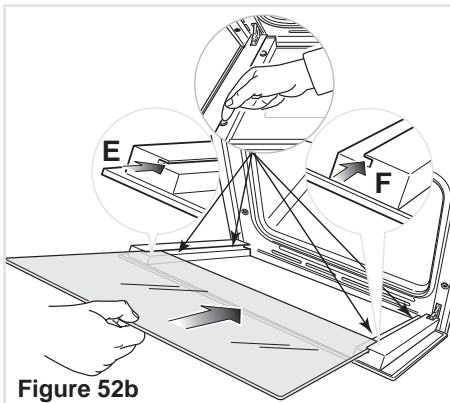
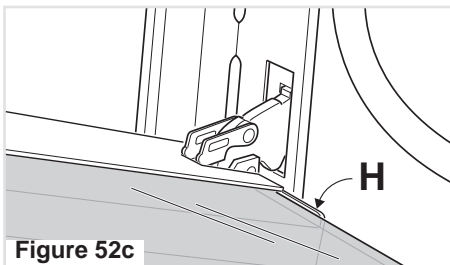

Figure 52b
Figure 52c
IMPORTANT: It is advisable, while refitting the glass, to keep pressed in position the four rubber pads "D", by a finger, to avoid breakage or slippage of the rubber pads themselves (fig. 52b).
- Insert the pane in the left "E" and right "F" slide guides (fig. 52b), and gently slide it to the retainers "H" (fig. 52c).